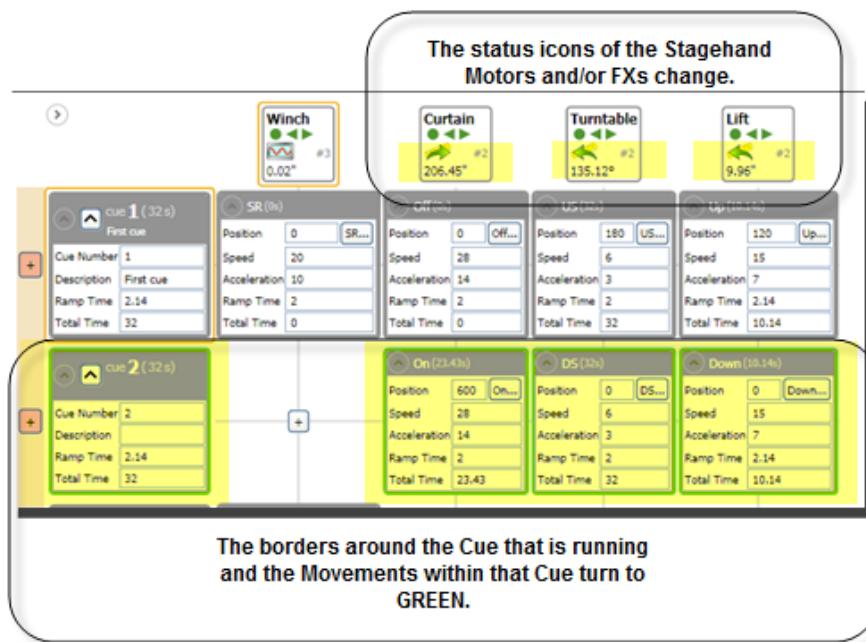

Figure 251
1. In the **Cue Grid**, the border around the Cue that is running and motor movements within the running Cue change to green and the Stagehand status icons change (Figure 251). *For a complete list of status icons and their meanings, see the “Motor Status” section on page 43 and the “FX Status” section on page 70.*